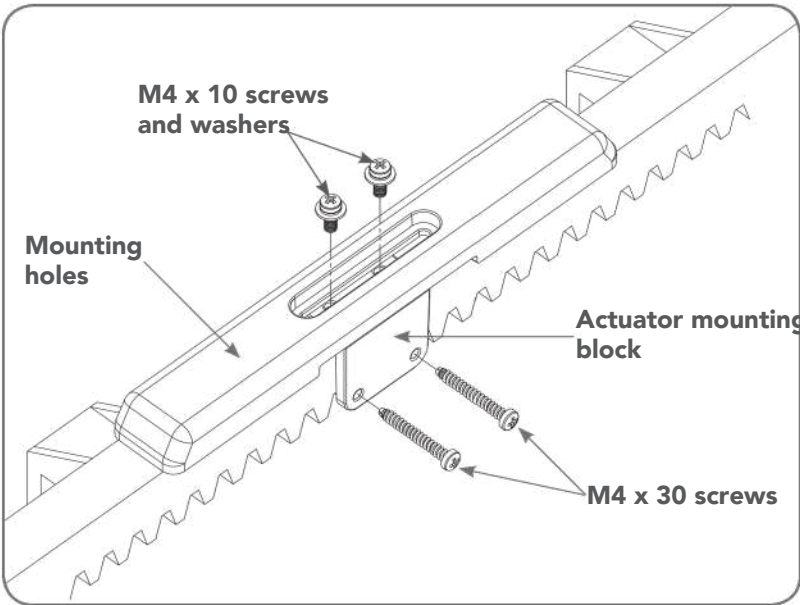

Fig 5.3
- c. Place start of limit actuator at marked position and move it 5 to 10mm towards the centre of the gate. Align the face of the limit actuator with the side of the rack and screw the limit actuator to the rack (Fig. 5.3).